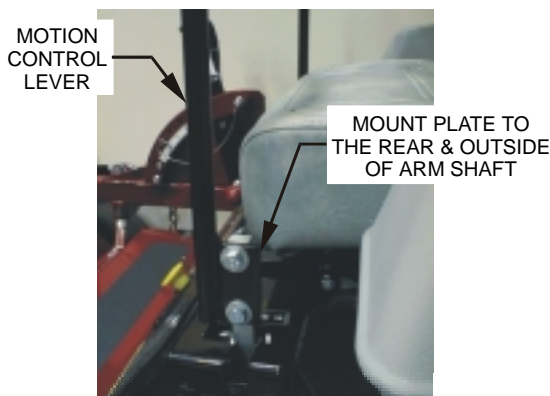

FIG. 4
3.8.1 Loosen and remove the two (2) 3/8" x 1" bolts and spring disc washers which attach the motion control levers to the control arm shafts for shipping and the two (2) 3/8" x 1" bolts and spring disc washers which are screwed into the control arm shafts.
- a) Install the left motion control lever onto the control arm shaft (See Fig.4) on the left side of the console. Place the lever (with the mounting plate towards the rear) on the **outside** of the control arm shaft and secure with the bolts and washers. Position the lever so the bolts are in the center of the slots on the lever mounting plate and tighten until snug. Repeat on opposite side of unit.